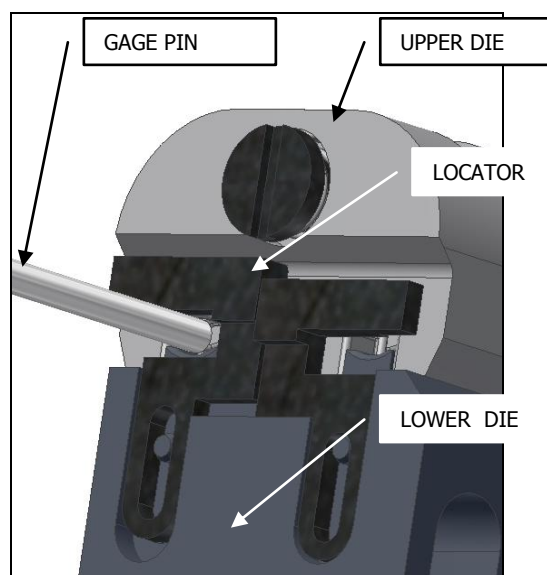

Figure 3
2. Insert the appropriately sized GO gage (Green) under the locator and into the conductor cavity of the die (Red or Blue) you are trying to gage (See Figure 3).
4. Attempt to insert the NO-GO gage (Red) under the locator and into the conductor cavity of the die (Red or Blue) you are trying to gage (See Figure 3).